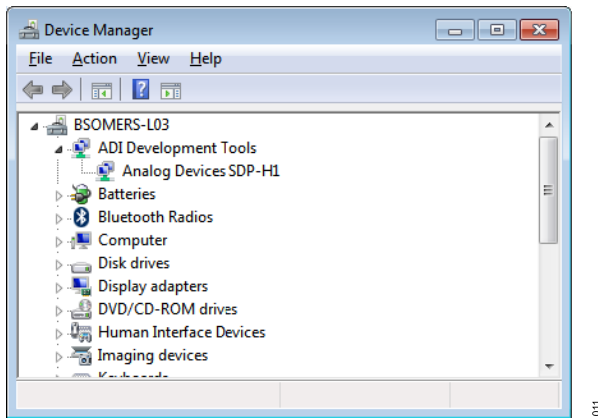

Figure 15. Device Manager Window
2. Navigate to the **Device Manager** window of the PC (see Figure 15).
4. The **Computer Management** window opens. In the list labeled **System Tools**, click **Device Manager**. If the **SDP-H1** driver software is installed, and the board is properly connected to the PC, **Analog Devices SDP-H1** is shown in the **ADI Development Tools** list in the **Device Manager** window, as shown in Figure 15.
4. If the EVAL-ADAQ4001FMCZ/EVAL-ADAQ4003FMCZ does not appear to be functioning, ensure that the EVAL-ADAQ4001FMCZ/EVAL-ADAQ4003FMCZ is connected to the SDP-H1 board and that the SDP-H1 is recognized in the **Device Manager** window, as shown in Figure 15.
5. When no data is read back, confirm that the EVAL-ADAQ4001FMCZ/EVAL-ADAQ4003FMCZ is connected to the SDP-H1 and that the SDP-H1 is recognized in the **Device Manager**, as shown in Figure 15.